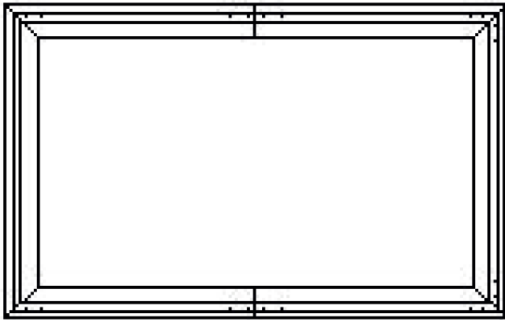

Fig 7
7. Once all frame parts are inserted into each other, each corner is fixed with 4x screws (J) (Fig. 7). When tightening, make sure that the corners are exactly at 90° to each other. Only then should you tighten the screws.